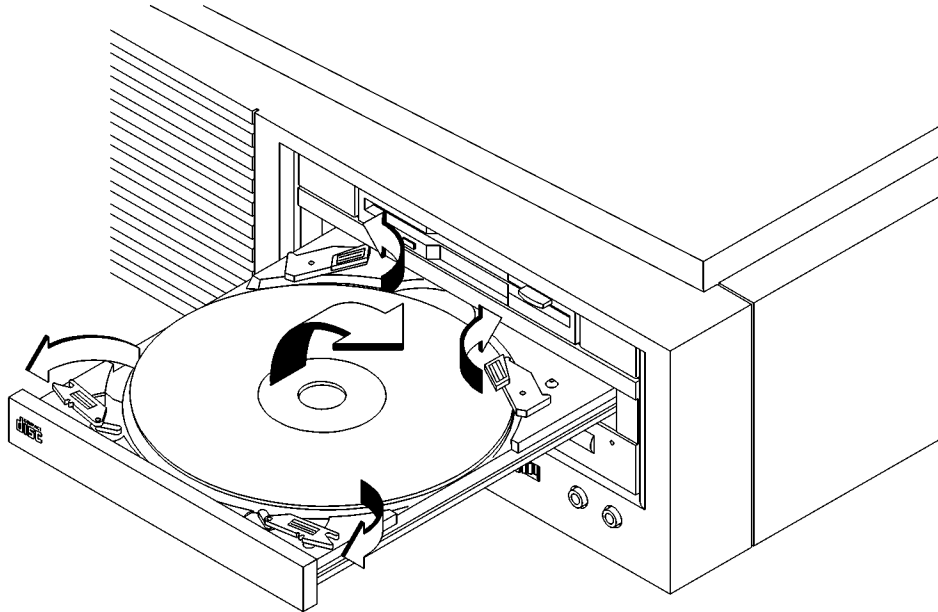

Figure 6
- 2 Wait until the drive has fully ejected the disc tray. Be sure the disc holders are held away from the disc by the disc holder retainers. Then remove the disc from the tray as shown in Figure 6. Be careful to touch only the edges of the disc.